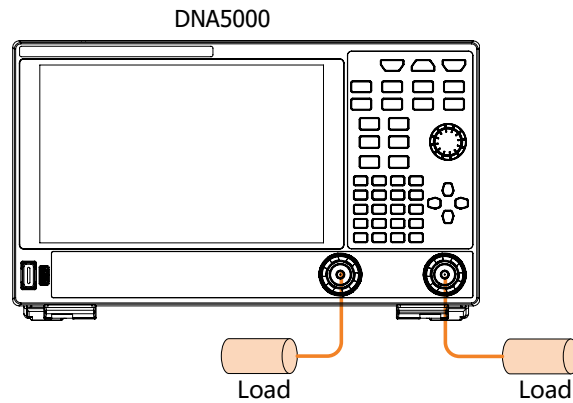

Figure 4.1 Test Device Connection for Raw Directivity
2. Connect a Load match to Port 1 and Port 2 respectively, as shown in *Figure 4.1*.